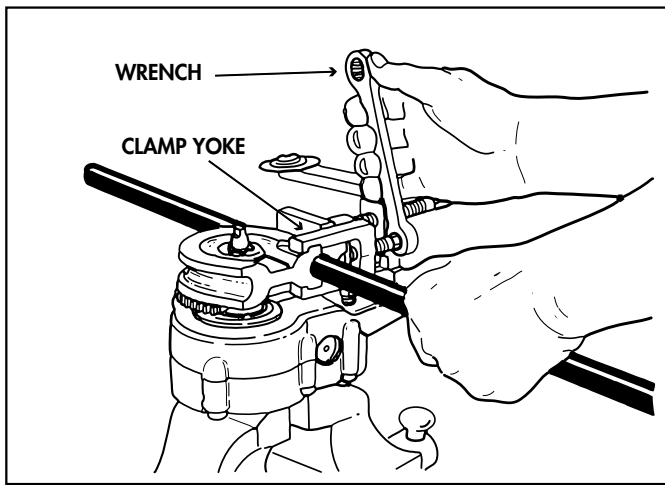

Figure 6. Tightening the Clamp Yoke on the Form Block
e. Place the tube to be bent in the groove of the form block, at the location of the desired bend, and clamp it into place with the clamp yoke. (See figure 6.) Make sure the clamp yoke is in proper position